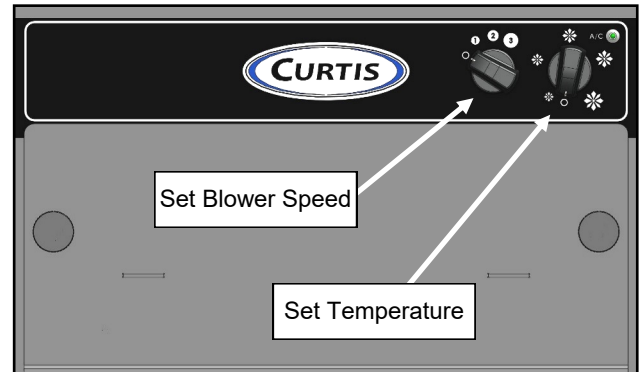

Fig. 2.38 (Test A/C Unit Functionality)
2.38 Turn on vehicle and test operation of the A/C Unit. If the A/C Unit does not function properly, check out the "Troubleshooting" section of this manual. See Figure 2.38 for basic A/C operation.
See Figure 2.38 above. Turn the 4 -position ventilation switch to activate the blower. This can be used as just a blower with the A/C compressor turned off.